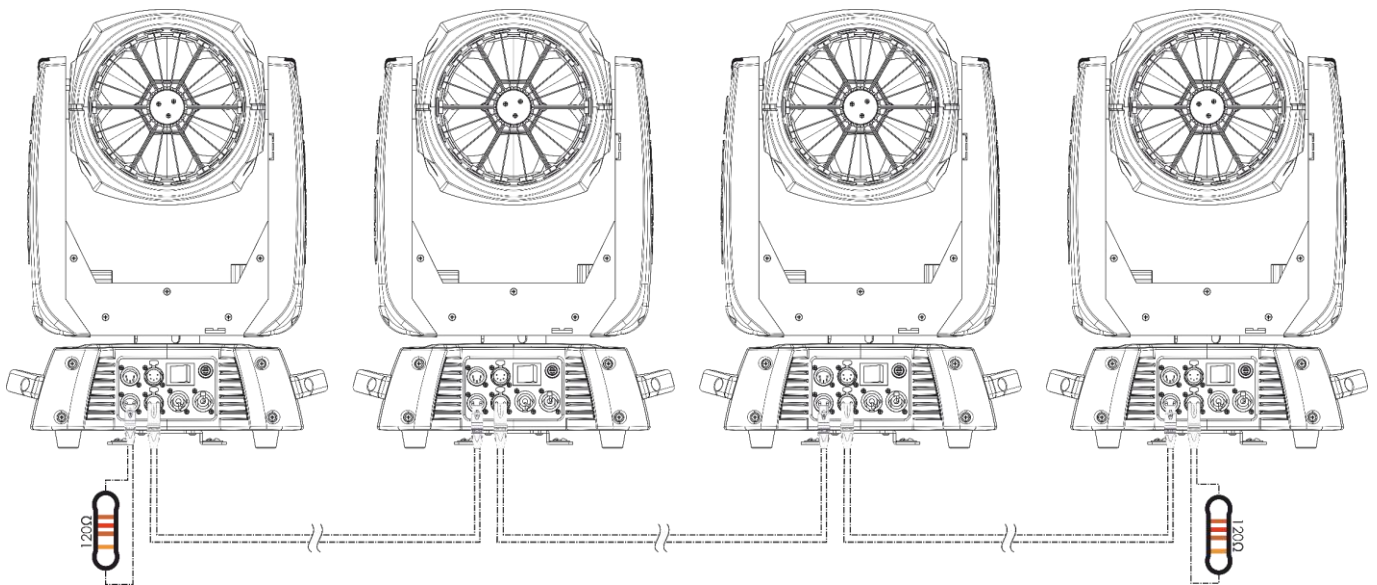

Fig. 09
- 06) Repeat step 1 to connect all devices as shown in Fig. 09. The first connected device will be automatically recognized as the master device.